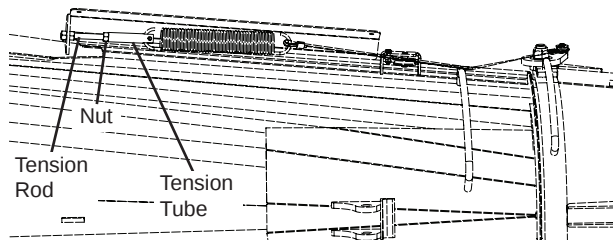

Figure 116
4. Loosen the nuts on the tension rod during the adjustment (Figure 116).
5. Use a pair of vice grips or other suitable tool to hold the tension tube and turn the tension rod clockwise to increase the tension or counter-clockwise to reduce the tension (Figure 116).